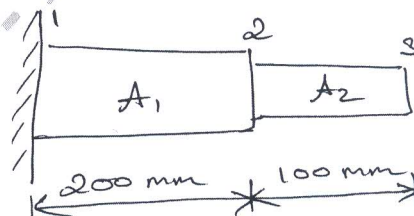

Fig.Q10(b)
b. Evaluate eigen value and eigen vector for the stepped bar shown in Fig.Q10(b). Take  $E = 200 \text{ GPa}$  and specific weight  $7850 \text{ kg/m}^3$ . Take  $A_1 = 400 \text{ mm}^2$  and  $A_2 = 200 \text{ mm}^2$ .